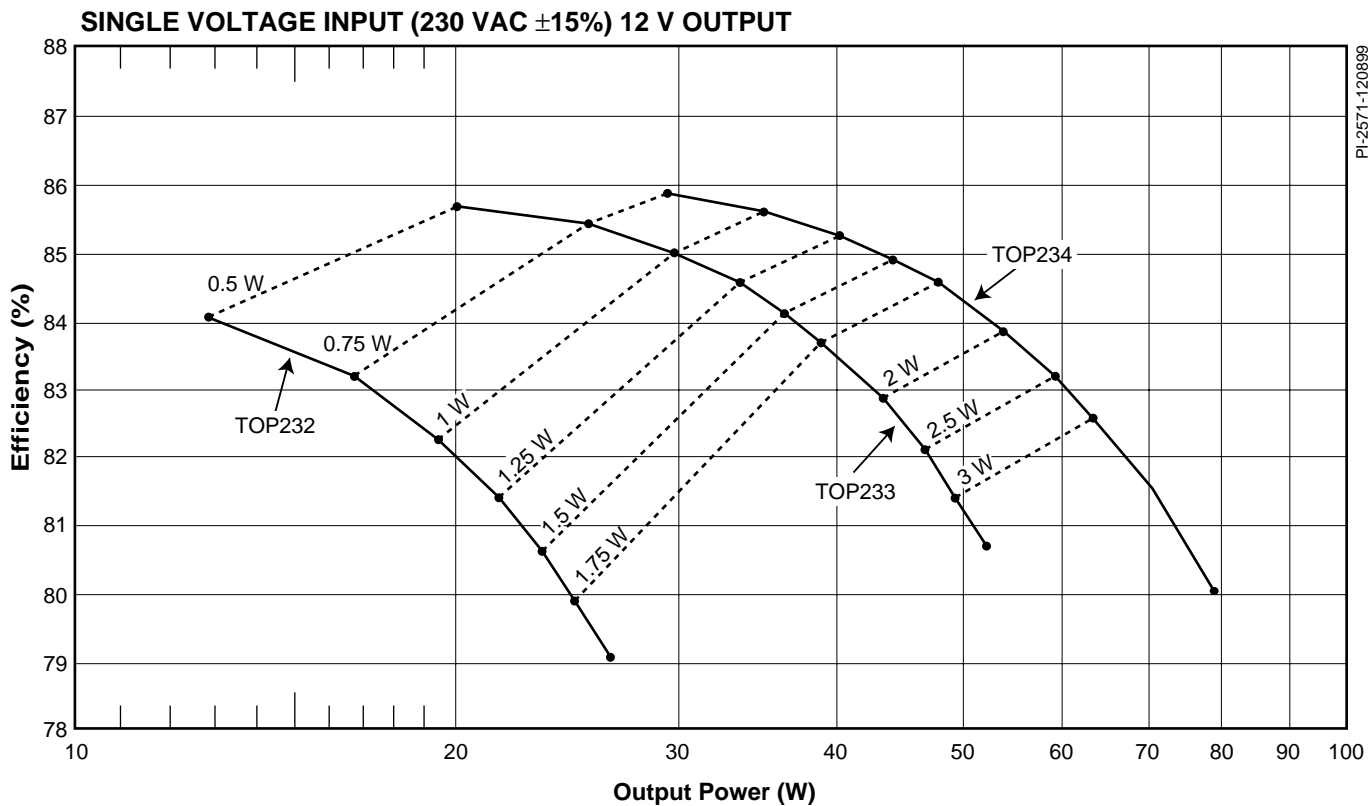

Figure 3. Efficiency vs. Output Power with Contours of Constant TOPSwitch-FX Power Loss for Single Voltage Application and 12 V Output.
- The single 230 VAC input (195 - 265 VAC) curves in Figures 3 and 4 assume a worst case of 195 VAC and an average voltage across the bulk capacitor of over 250 VDC (peak of 275 V and trough of 230 V).
## TYPICAL COMPONENT PARAMETERS FOR SINGLE VOLTAGE INPUT (230 VAC $\pm 15\%$ ) POWER SUPPLY (Figures 3 and 4)